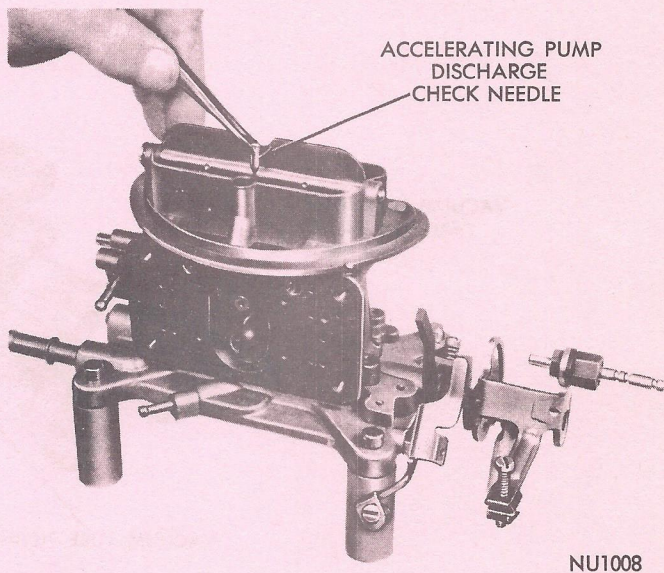

Fig. 9—Removing or Installing Pump Discharge Check Needle
(8) Invert main body and drop out accelerator pump check needle from discharge passage (Fig. 9).